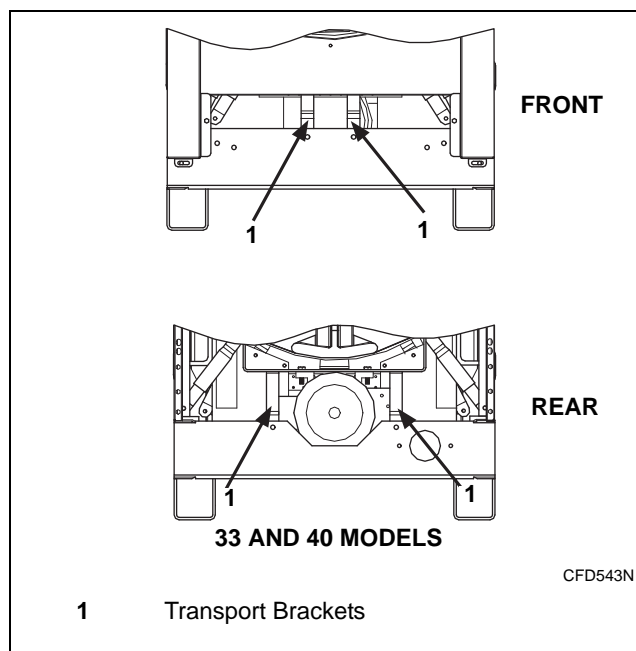

Figure 14
5. For 33 and 40 models, remove the transport brackets. Refer to *Figure 14*.